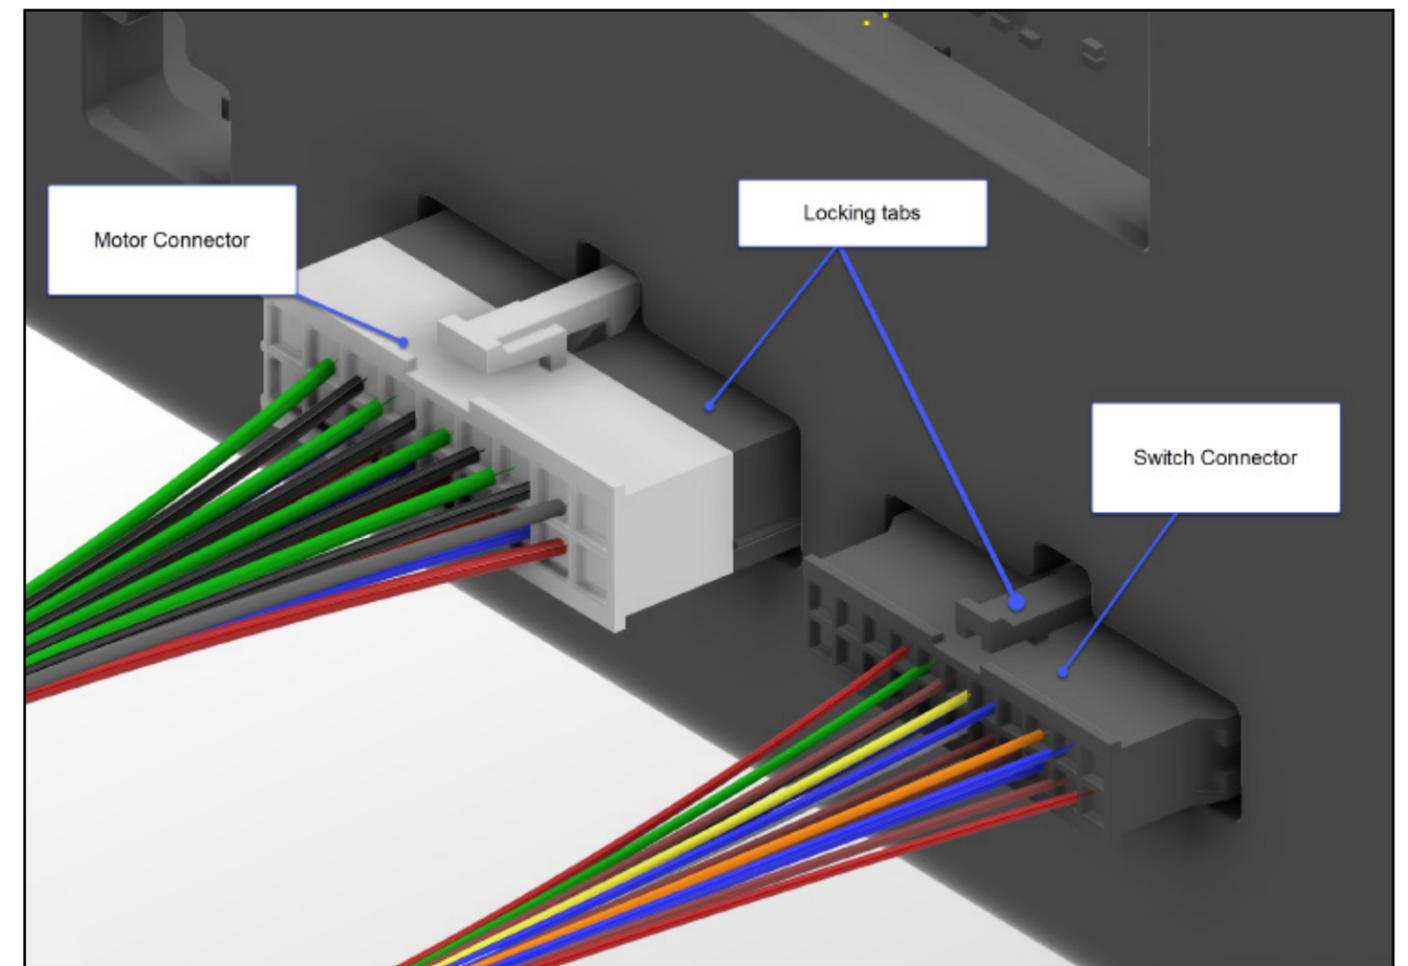

Figure 6-1
2. Plug the 18-pin motor wiring bundle connector into the larger 18-pin “MOTORS” port on the controller. See Fig. 6-1.
3. Plug the 22-pin limit switch wiring bundle connector into the smaller 22-pin “SWITCHES” port on the controller. See Fig. 6-1.